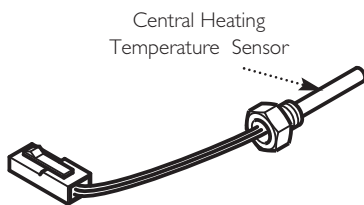

Fig. 59
13.8 Central Heating Temperature Sensor (NTC) (Fig. 59)